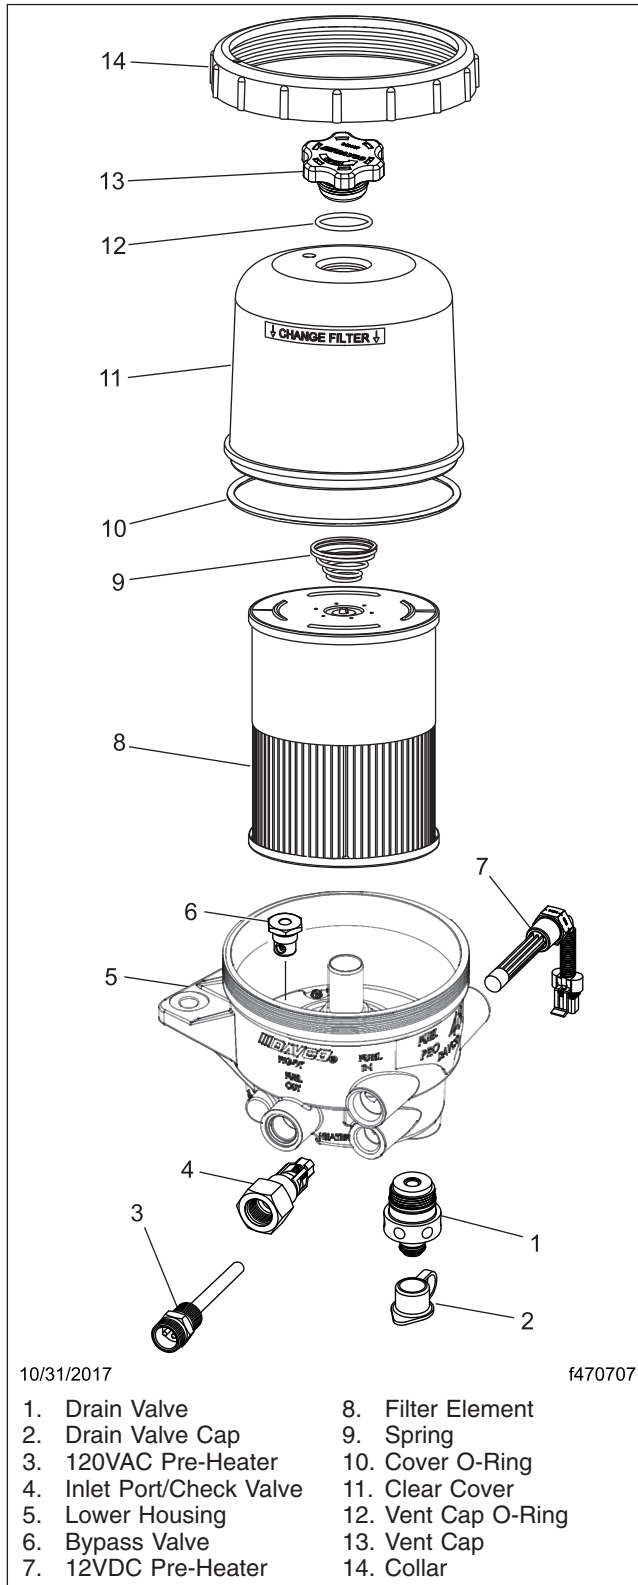

Fig. 4, DAVCO Fuel Pro 487
4. Remove the vent cap, shown in **Fig. 4**, to drain the fuel completely, then close the drain valve.
6. Remove the filter, cover O-ring, and vent cap O-ring. Dispose of them in an environmentally acceptable manner. See **Fig. 4**.